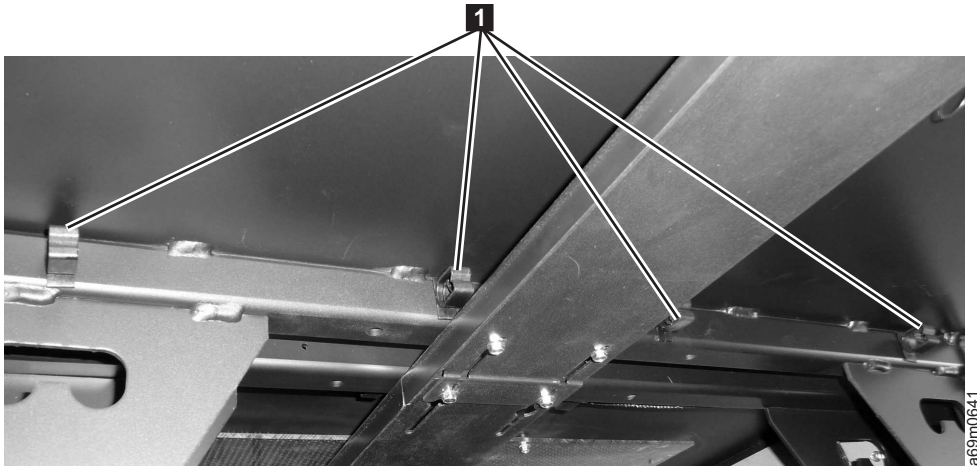

Figure 25. Cable restraint clamps
1. If the camera mount is installed on the front frame support, route the camera cables through the existing frame cable clamps (**1** in Figure 25 on page 110) along the top of the frame. Ensure the cables do not interfere with accessor operation.